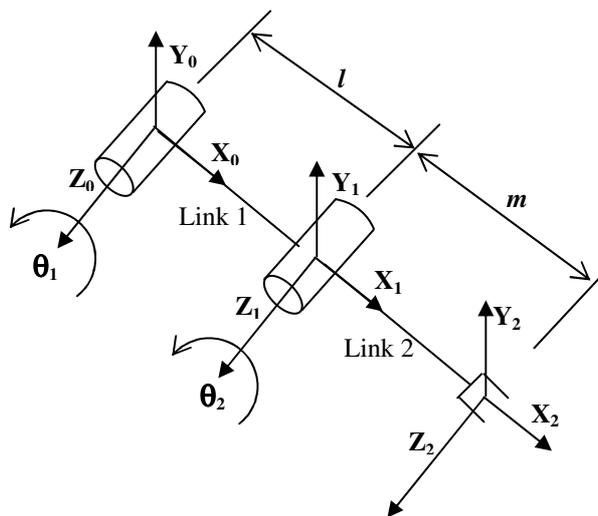

Fig.1 Planar Robot Manipulator
- Q.4 (a)** For the robot configuration shown in Fig.1, produce parameter table of D-H Transformations between successive joints and find out total transformation matrix using D-H representation. Also find out the coordinates of a point in space when $\theta_1 = 20$ degree and $\theta_2 = 20$ degree for link 1 and link 2, respectively. **07**